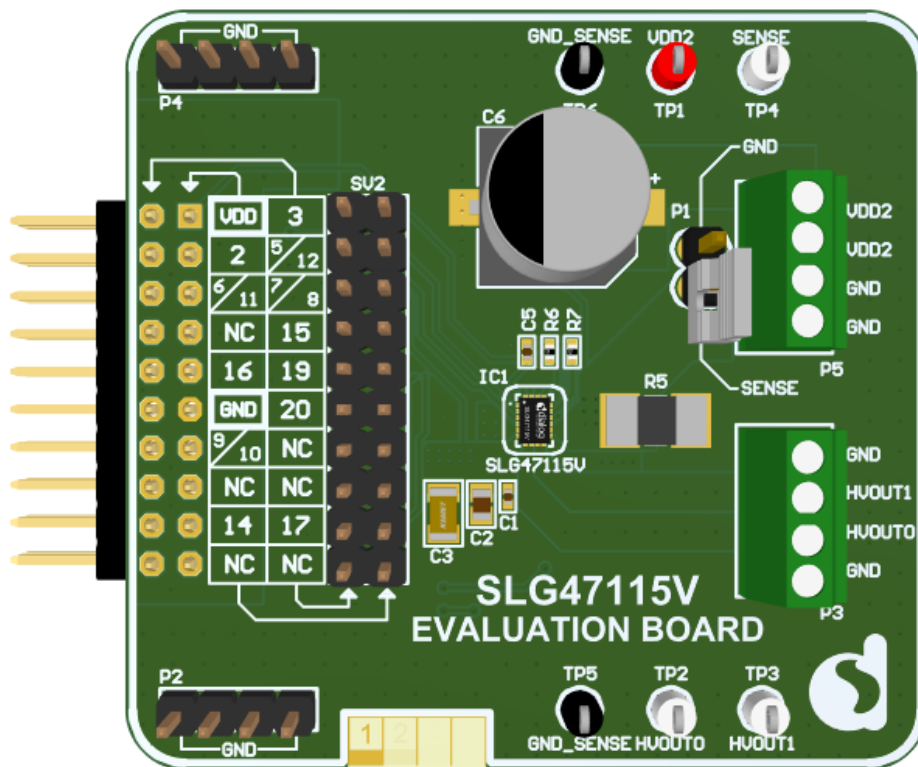

Figure 1. SLG47115V EVB General View
- Figure 1. SLG47115V EVB General View2
SLG47115V Evaluation Board (EVB) (see Figure 1) allows to get acquainted with SLG47115’s functionality, especially the H-Bridge/Half-Bridge functions, and allows the User to test the power part of the chip.